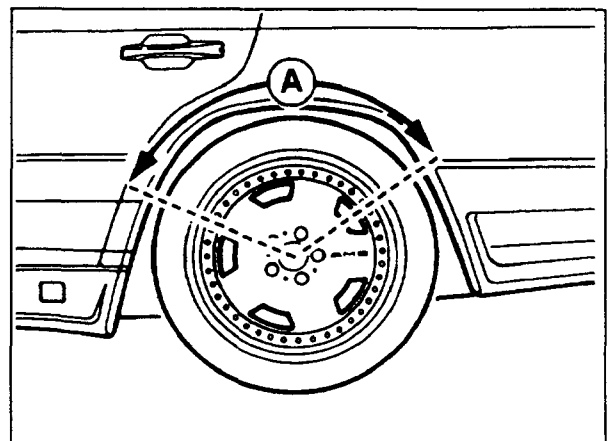

Figure 12
23. The inside edge of the rear fenders must be rebent to an angle of 110° over the complete wheel cutout (A, Figure 12) to accommodate the wider wheels and tires.
26. The fender lip is reworked over the entire area (A, Figure 12) in several stages. A plastic hammer must be used to avoid damaging the paint.